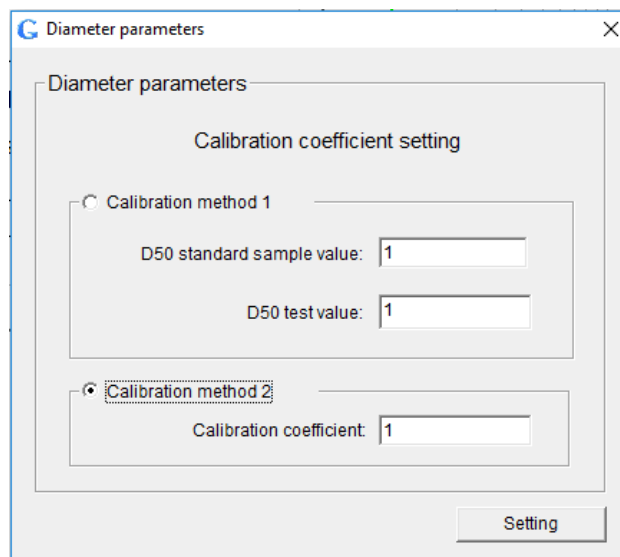

Figure 9: Calibration Interface
6.9.1 Click "Calibration coefficient setting" in the "Parameter setting" menu to open the popup window, as shown in Figure 9. In "Calibration method 1", input standard sample value and test value directly and then to click "Setting". If choosing "Calibration method 2", calculate the calibration coefficient first and then fill in it and click "Setting";